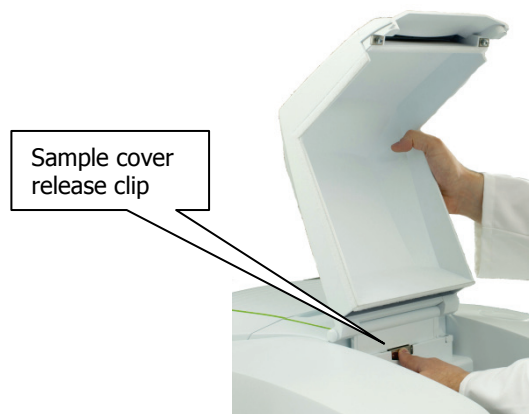

Figure 36 Removing the sample compartment cover
4. Remove the sample compartment cover, if fitted; open the cover, press on the cover retaining clip and then pull the cover vertically to remove it (Figure 36).